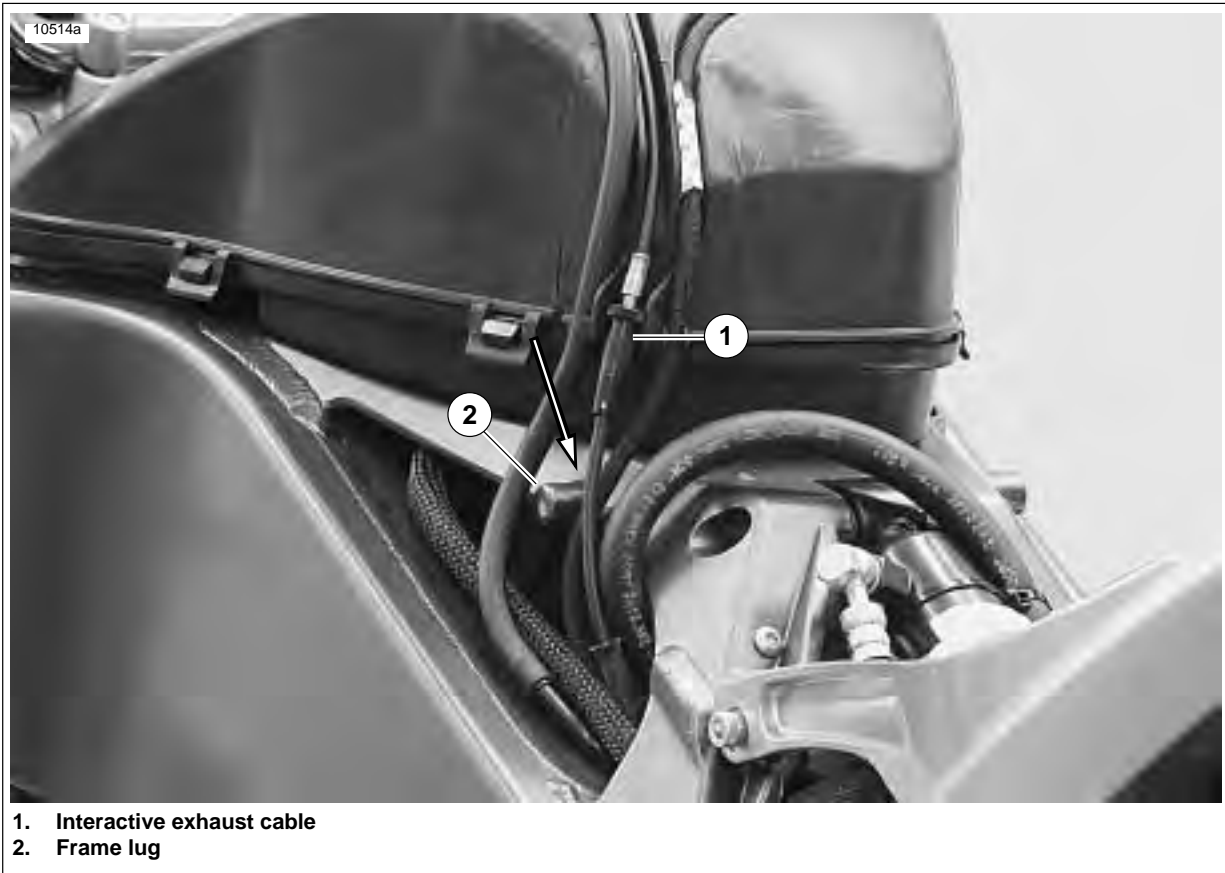

Figure 1-49. Correct Cable Routing Behind Frame Lug (Typical)
11. See Figure 1-49. Verify that the interactive exhaust cable (1) is routed behind the frame lug (2) before installing air intake cover.